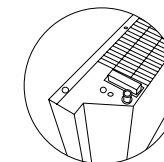

Figure. 6
Using the chassis (supplied separately), having previously studied the mounting scheme (Fig. 6), install the device on the floor:
- Carefully turn the convector upside down (Fig. 6).